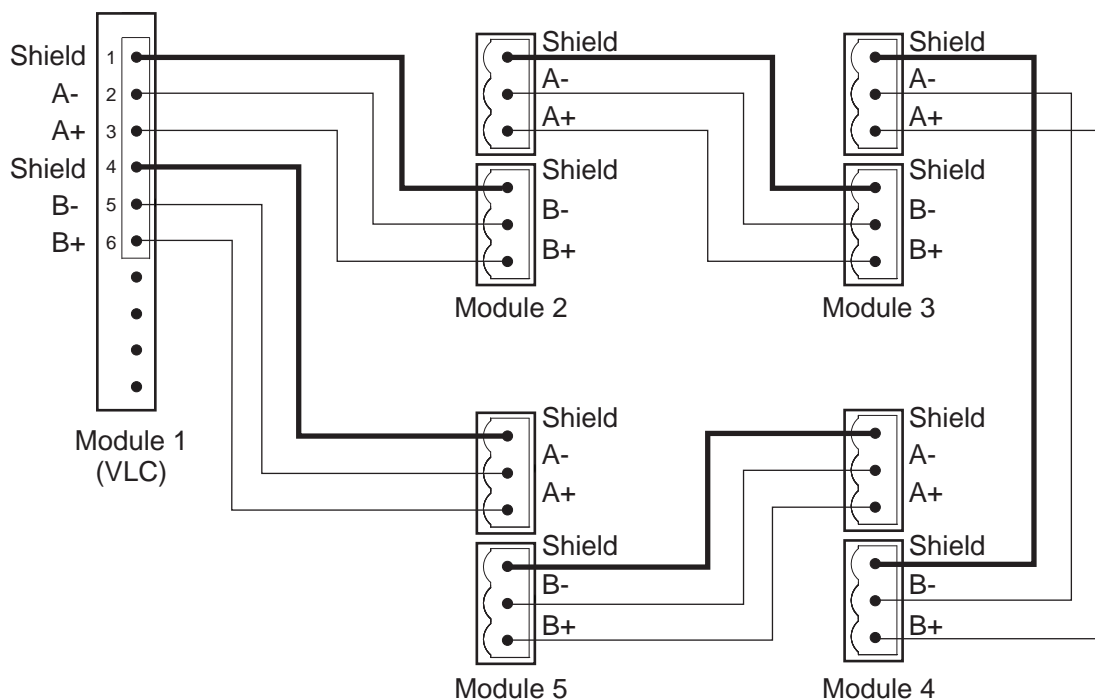

Figure 6-9: Wiring details for VESDAnet
- Connect the VESDAnet wires as shown in Figure 6-9. This diagram is only an example for five detectors. This wiring method is similar for two or more detectors.